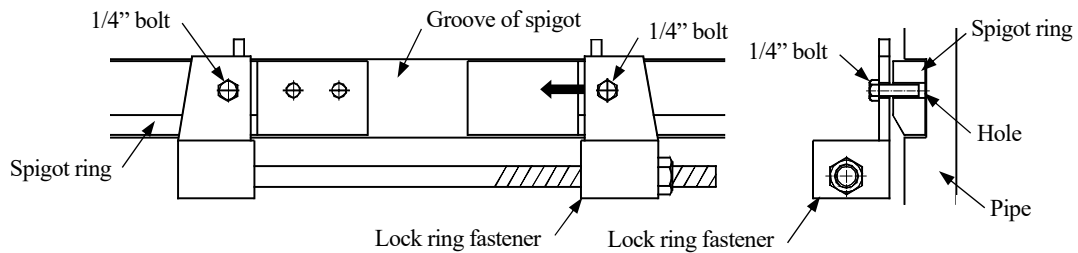

Figure 27 Set of spigot ring in the groove of spigot
- 2) Insert 1/4" x 0.4" long bolt into the hole on the jaw of the lock ring fastener. Set the spigot ring in the groove then insert the 1/4" bolts on the lock ring fastener into the holes on the spigot ring. Contract the spigot ring with the fastener and fix it to the groove of the spigot (see Figure 27).